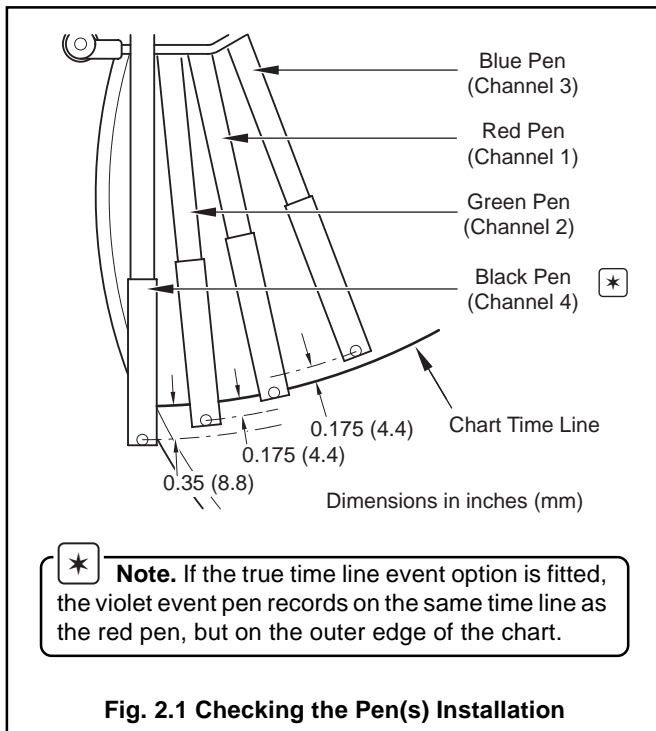

Fig. 2.1 Checking the Pen(s) Installation
2.1 Instrument Power-up – Fig. 2.1 and 2.2
- Check that the pen(s) are installed correctly – see Fig. 2.1.